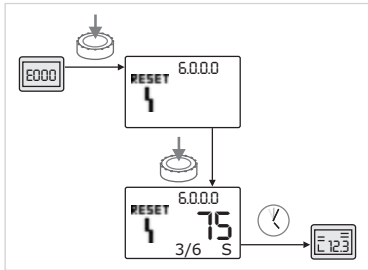

Fig. 55: Acknowledge error type B (X < Y)
- If the current incidence of the error is less than the maximum incidence (Fig. 55):